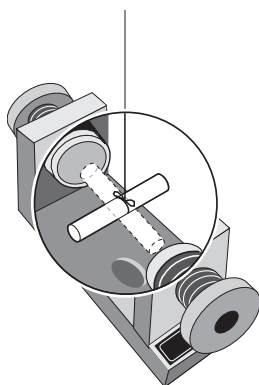

Figure 11
- ① For the glass sample, show that when you place the glass rod parallel to the magnetic field lines, the rod rotates and oscillates about an equilibrium position which is perpendicular to the magnetic field lines of the magnet (Figure 11). Eventually the glass rod will come to rest in this equilibrium position but it takes longer than you will want to wait. So, using your hand, stop the glass rod in the equilibrium position. Then, to show that the rod is held in this position by the magnet, gently rotate the magnet about the axis formed by the thread. The glass rod will also rotate, always keeping perpendicular to the magnetic field lines.